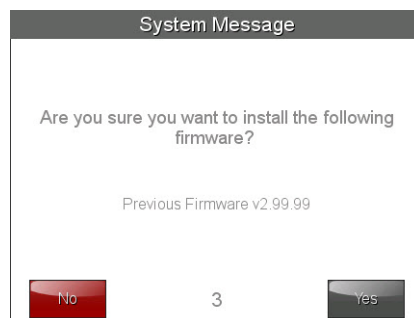

FIG. 23 Previous Firmware installation confirmation dialog
5. The *Confirmation Dialog* box (FIG. 23) will ask “Are you sure you want to install the following firmware?” The option to choose **Yes** will be enabled after five seconds. Press **Yes** to load the firmware listed, and **No** to return to the *Firmware Installation* popup window.